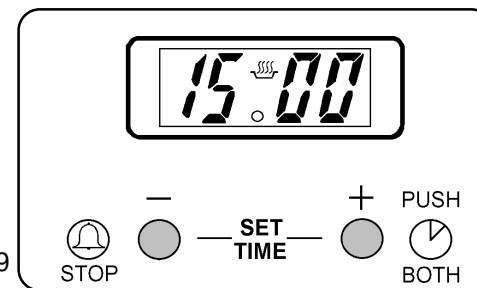

Fig.9
Release button (1). To reset the time of day, press buttons (1) and (2) together. See Fig. 9.